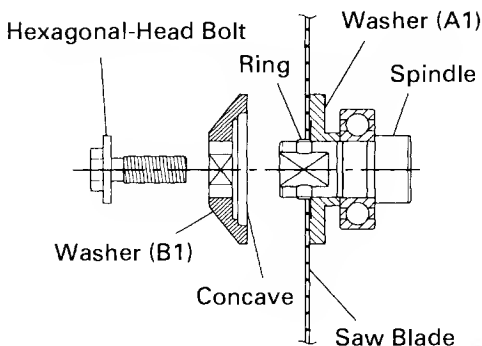

Fig. 19
2. Mounting the Saw Blade (Fig. 19)